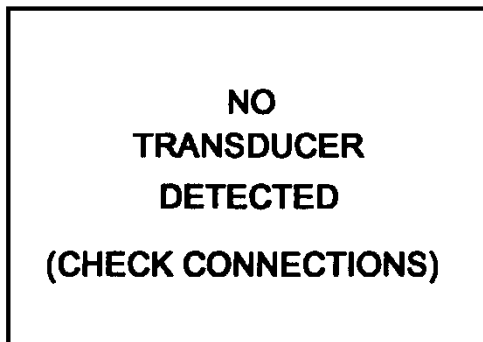

Figure 23
- 14.4.1.5 Verify display changes to "NO TRANSDUCER DETECTED (CHECK CONNECTIONS)" per Figure 23.